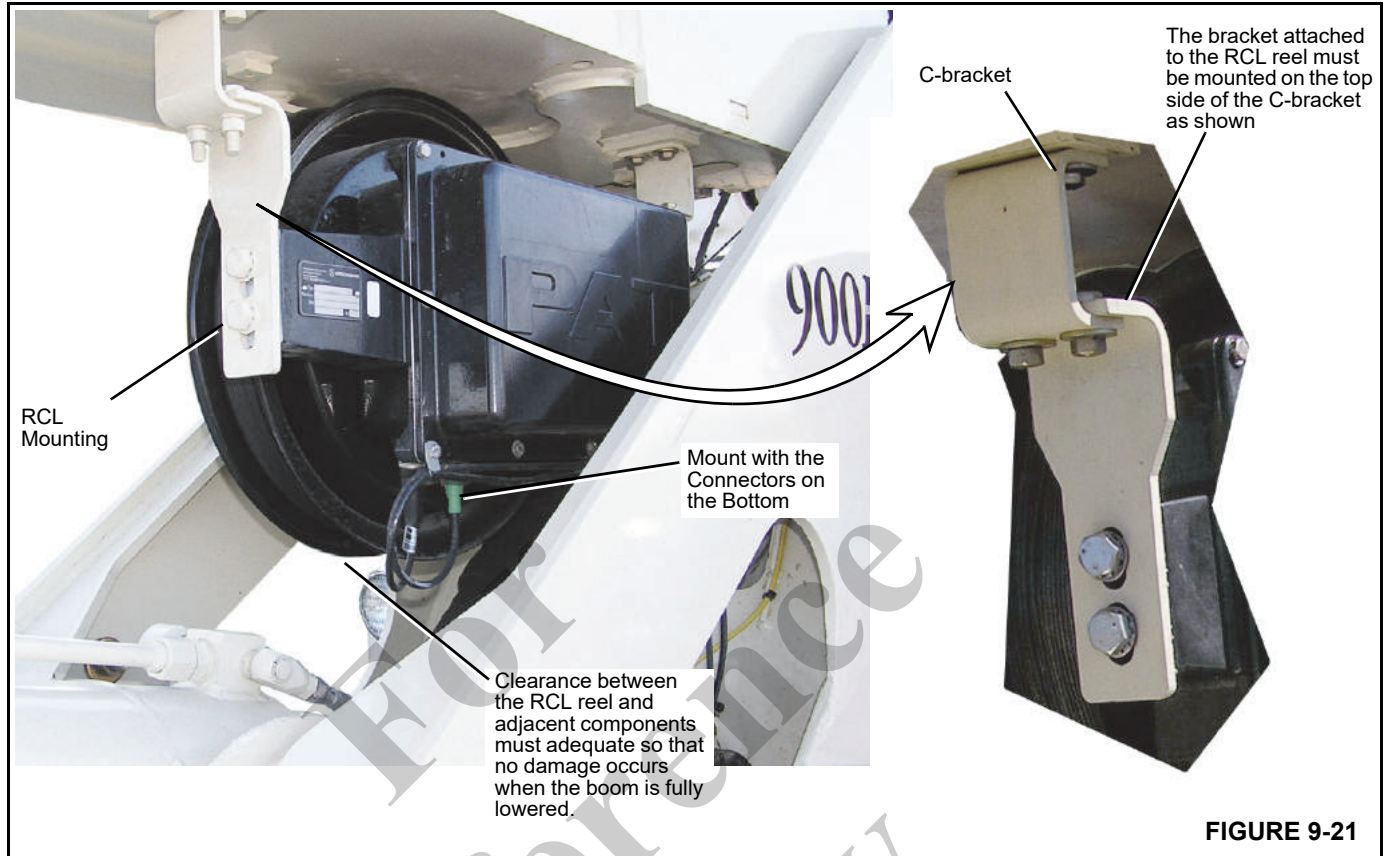

FIGURE 9-21
3. Attach the mounting brackets to the RCL reel and mount the RCL to the boom as shown in Figure 9-21.